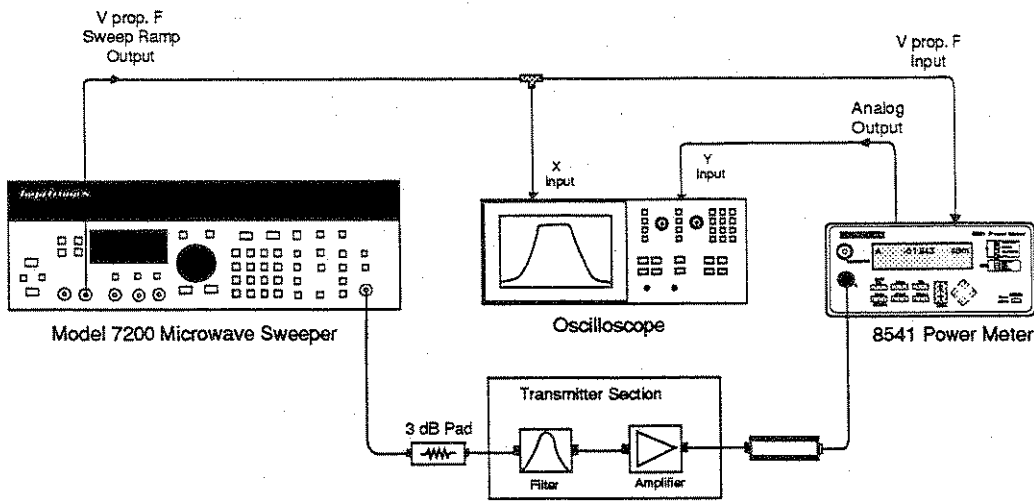
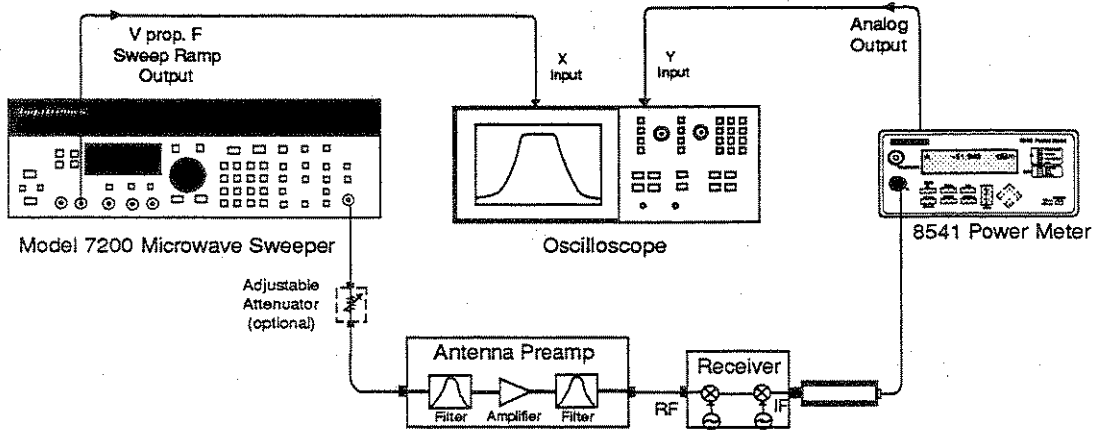

Figure 17. Swept Frequency Testing of a Microwave Transmitter.
Figure 18. Swept Frequency Testing of a Receiving System.
1. Connect Sweeper, Power Meter, and Display (Oscilloscope) as shown in either Figure 17 (for a Transmitter) or Figure 18 (for a Receiver).
Transmitter gain can be displayed using the dual channel 8542 Power Meter. The power splitter should be placed after the 3 dB pad shown in Figure 17. Configuring the 8542 for A/B operation allows the Analog Output to operate as a voltage proportional to gain (A/B) indicator.